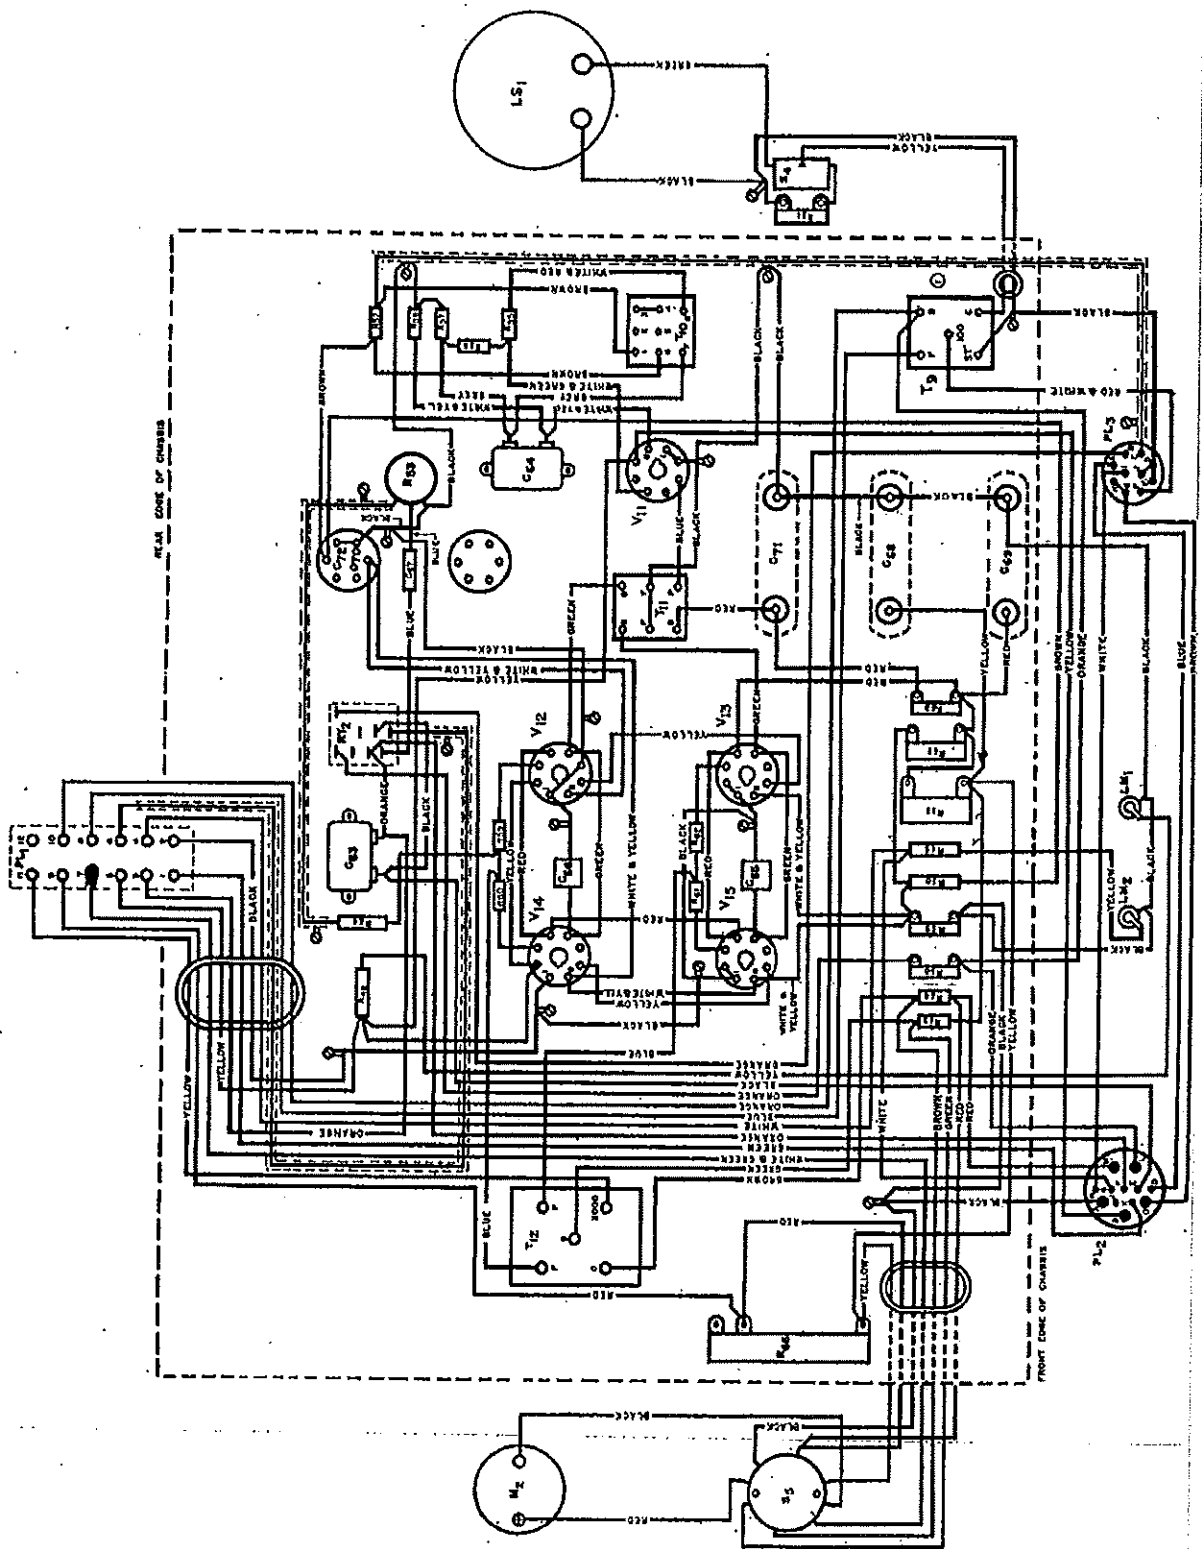

Fig. 14 - Radio Receiver and Transmitter BC-669-B Modulator Section, Practical Wiring Diagram.
- b. Transmitter — (Refer to figures 14 and 15) Electrically, the transmitter consists of oscillator tube V_{10} , r-f power amplifier tubes V_8 and V_9 , modulator driver tube V_{11} and modulator tubes V_{12} , V_{13} , V_{14} and V_{15} together with their associated circuits.